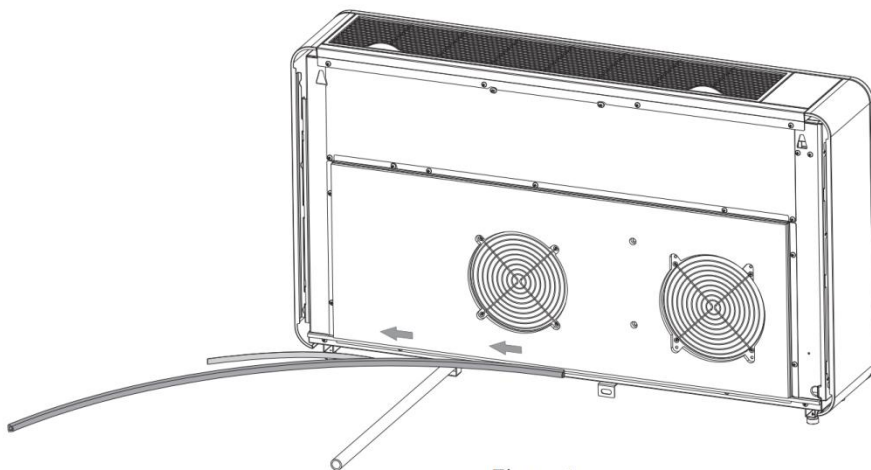

Figure 1
1. The sealing strip should be pasted along the edge of the machine, as shown in Figure 1.